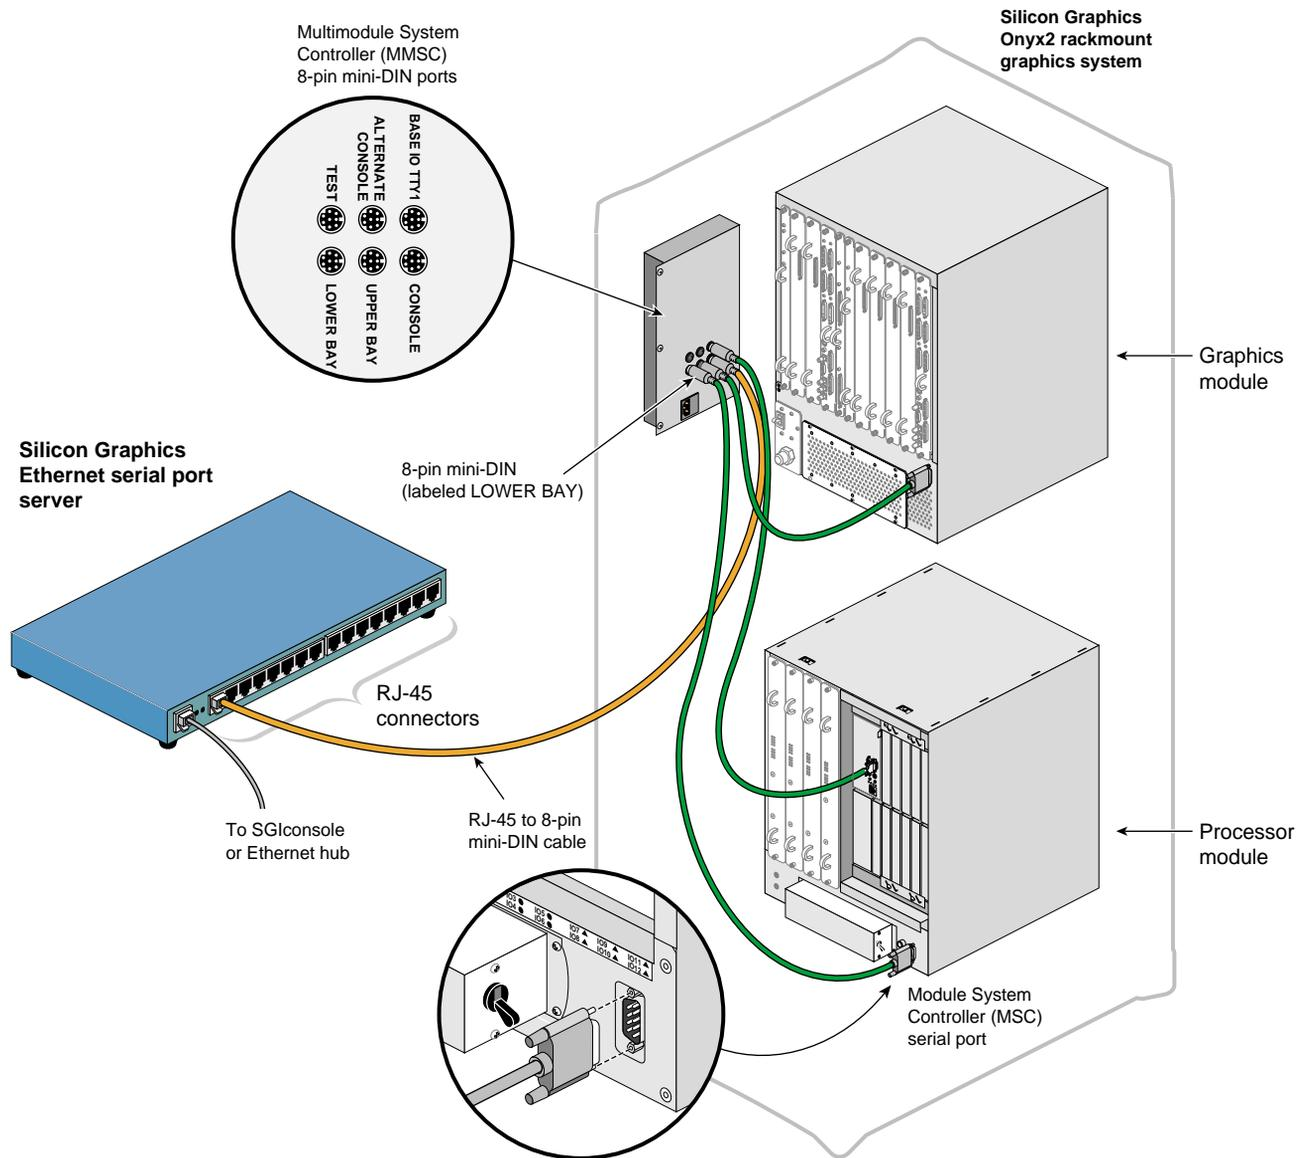

Figure 5-36 Connecting the MMSC Lower Bay Connector to the Processor Module MSC Serial Port
9. Connect the 8-pin mini-DIN connector of the third 8-pin mini-DIN to DB-9 cable to the MMSC connector labeled “Lower Bay.” Connect the DB-9 connector end of the same cable to the Module System Controller (MSC) serial port connector of the Silicon Graphics Onyx2 rackmount graphics system processor module located in the lower bay of the rack. See Figure 5-36.